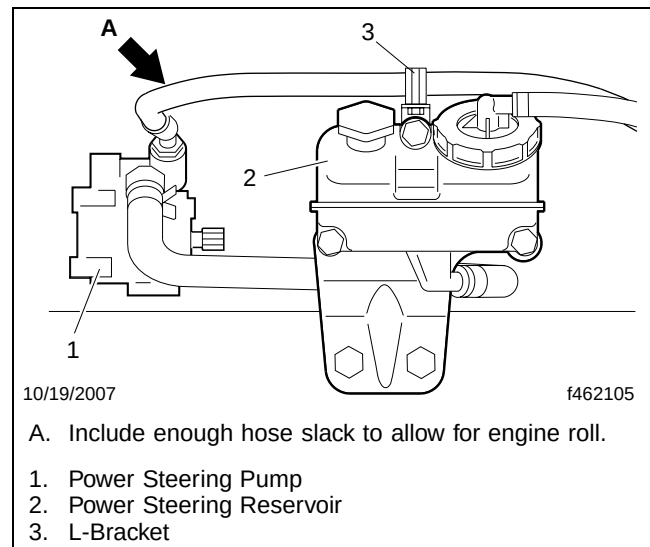

Fig. 6, Hose Routing To Pump (S60 Shown)
32. Install and route the new pressure line from the frame-mounted hose bracket to the pump, and include extra hose between the L-bracket on the top-mount of the reservoir and the pump to allow for engine roll. See **Fig. 6**. Tighten the fitting 42 to 52 lbf·ft (57 to 70 N·m).
35. Using hose clamps, install the new power steering pump suction line on the reservoir and pump. See **Fig. 6**.